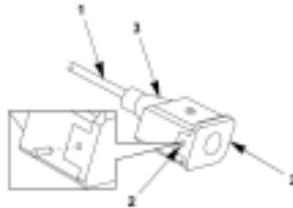

Figure 1. Return Rod and Transfer Mechanism Assembly.
Rotational and lateral movement (looseness) between the rod (Figure 1, Item 1) and the plunger (Figure 1, Item 3) is acceptable.
1. Visually inspect return rod (Figure 1, Item 1). If bent or broken, replace entire assembly.
2. Inspect two spring pins (Figure 1, Item 2). If bent, damaged or missing, replace spring pin (Figure 1, Item 2). If either pin is broken, replace entire assembly.
3. Using pliers (w/cutters), grip the bent or damaged spring pin (Figure 1, Item 2) (90 degrees to the split, gently squeeze and pry out of hole).
4. To install new spring pin (Figure 1, Item 2), place return rod and transfer mechanism assembly on vise with jaws slightly apart. With chamfered end of spring pin (Figure 1, Item 2) in hole and the split to the front, drive in pin until it stops.